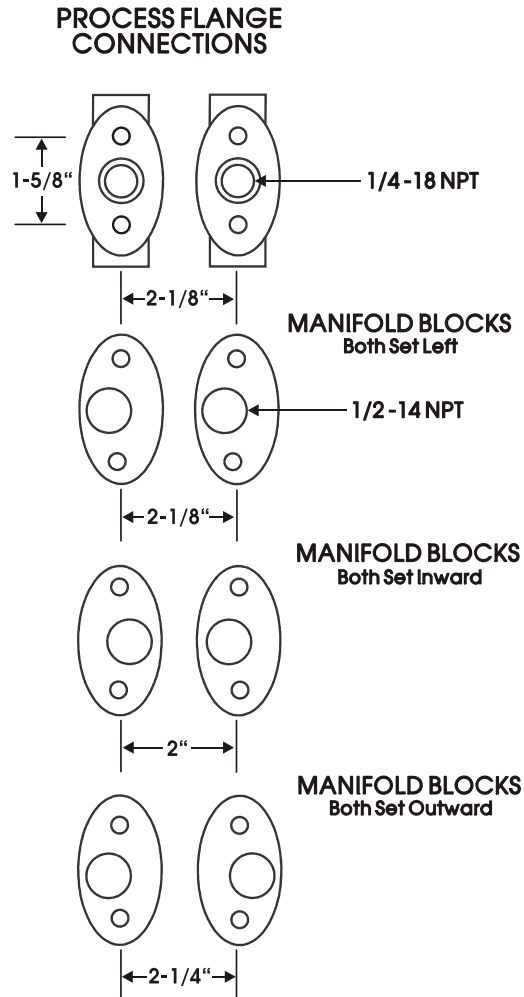
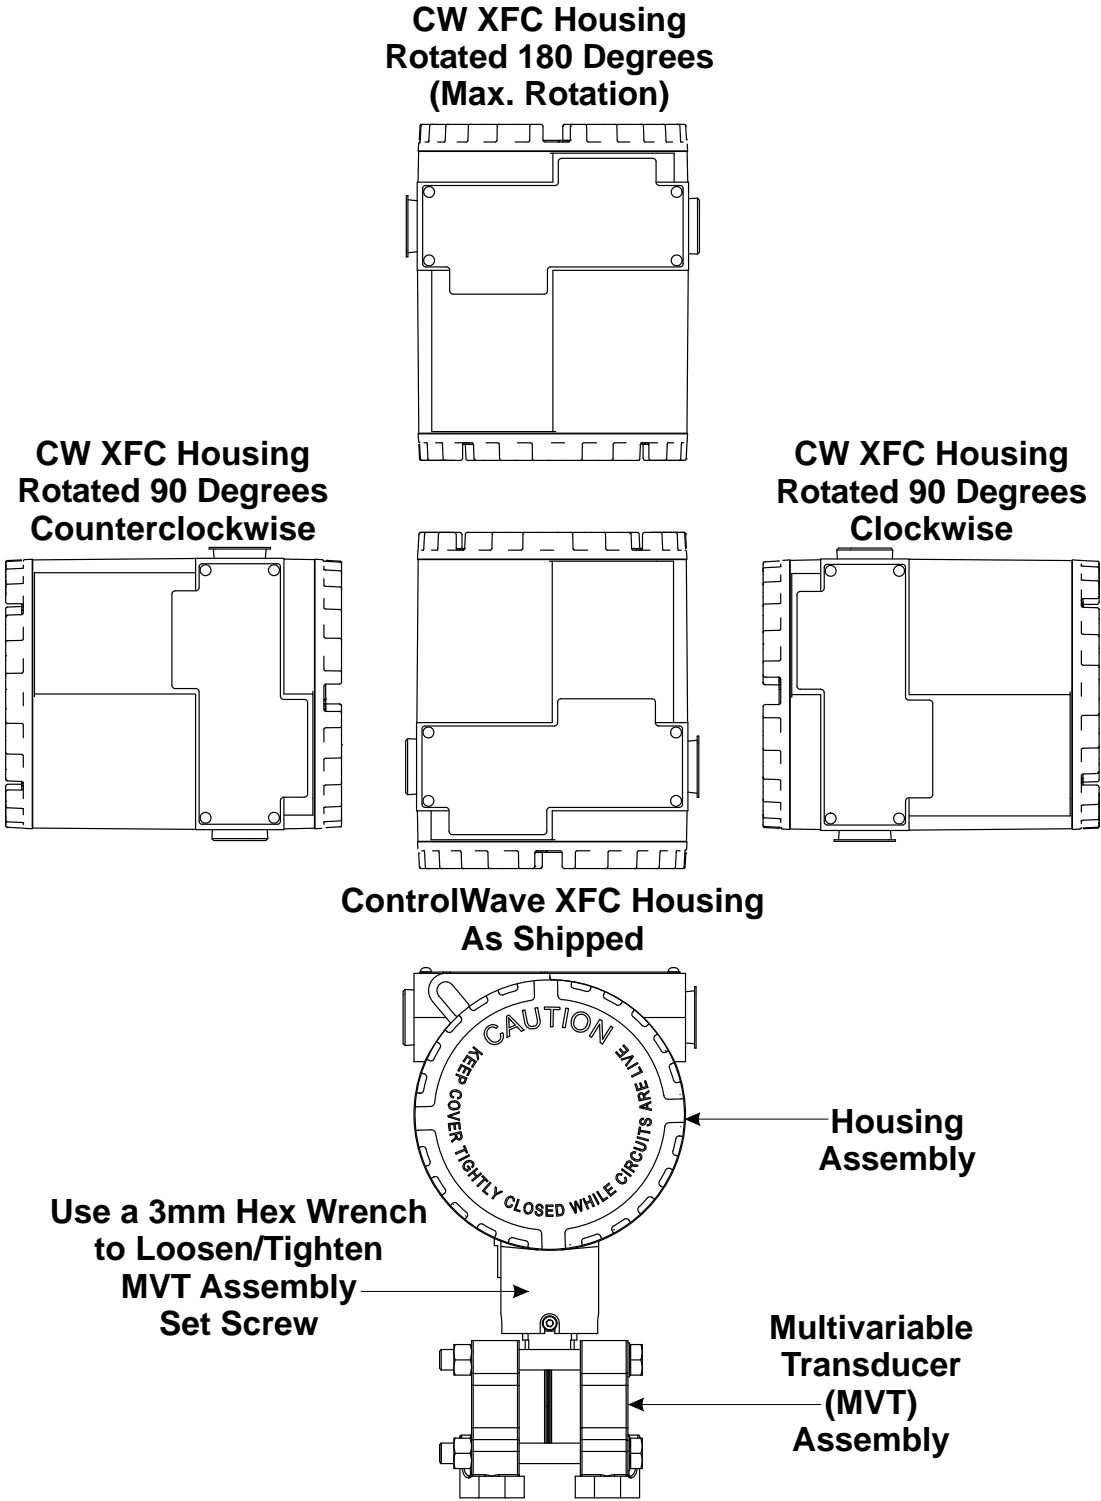
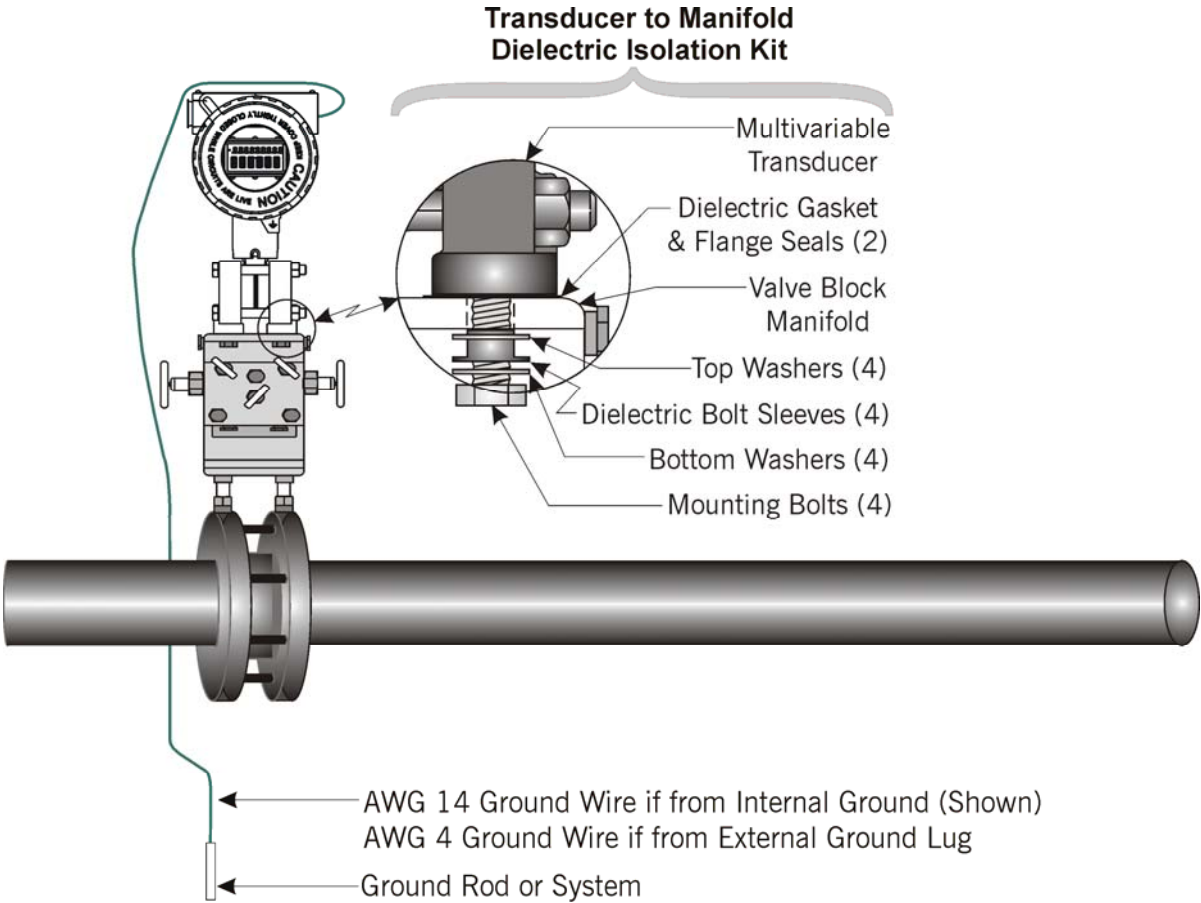
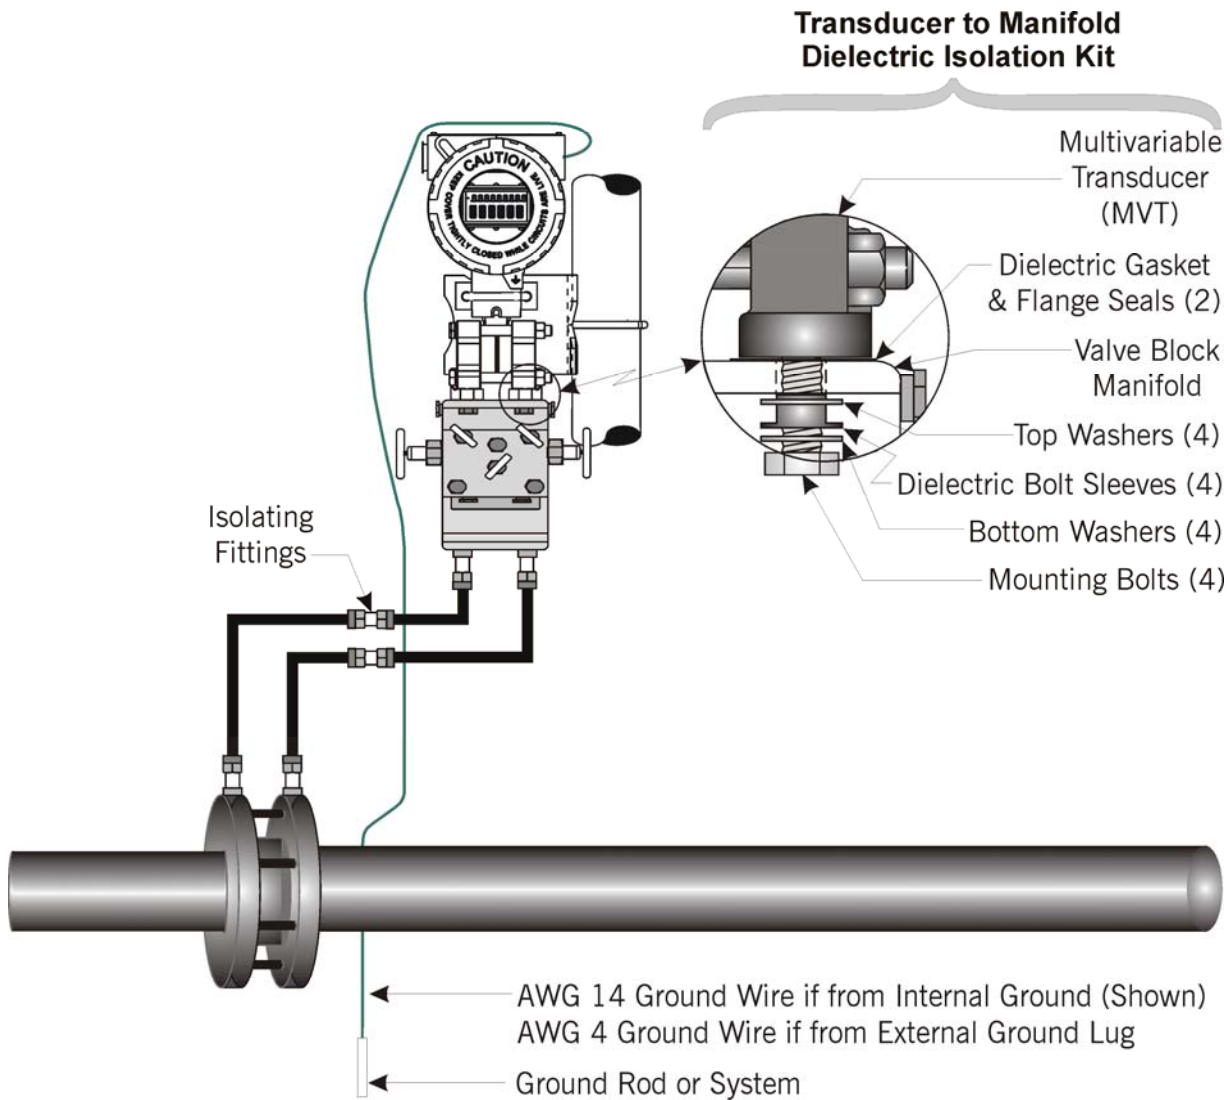

Figure 2-5. Process Flange and Optional Manifold Block Connectors
Figure 2-6. ControlWave XFC Housing Assembly Rotation Diagram
Figure 2-7. ControlWave XFC Direct Mount Installation with Cathodic Protection
Figure 2-8. ControlWave XFC Remote Installation (with Cathodic Protection)
Bolt the multivariable transmitter (MVT) to a process manifold that you connect to the main (meter run) directly or via two pipes (see Figure 2-5, Figure 2-6, Figure 2-7, and Figure 2-8).
Your ControlWave XFC may have an optional multivariable transducer (MVT) secured to the bottom of the unit. *Figure 2-5* details MVT process flange and optional manifold block connector mounting dimensions.
- **Standard Process Flange for MVT** – Two process flanges containing the connection ports are assembled to the differential transmitter. Port designations (L and H) are stamped on the body between the flanges. Ports accept $\frac{1}{4}$ -18 NPT pipe connections to 2-1/8 in. centers for connection to orifice taps or a standard three-valve manifold. These process flange connections are illustrated at the top of *Figure 2-5*.
Optional Process Manifold Blocks – Process manifold blocks may be installed on the transmitters to permit the use of connector assemblies having different connection centers. The manifold blocks, which are oval in appearance, mate with the transmitter's process flange. The blocks may be installed in several positions to achieve different connection centers as shown in *Figure 2-5*.
To rotate the case, remove the setscrew that locks the MVT to the XFC with a 3mm hex wrench. Once the case has been turned to the desired position, be sure to replace and tighten the set-screw (see *Figure 2-6*).
Note: Remote installation of a unit, without cathodic protection, is similar to that of *Figure 2-7* except that it does not require the transducer to manifold dielectric isolation kit.
Dielectric isolators are available and are always recommended as an *added measure* in isolating the ControlWave XFC from the pipeline even though the enclosure does provide some galvanic isolation from the pipeline and should not be affected by the cathodic protection or other EMF on the pipeline. ControlWave XFCs equipped with an MVT may be mounted directly on the pipeline or remotely on a vertical/horizontal stand-alone two-inch pipe or on a wall or panel (see *Figure 2-8*). ControlWave XFCs equipped with a GPT can only be mounted on a vertical/horizontal stand-alone two-inch pipe or on a wall or panel. It is recommended that isolation fitting always be used in remotely mounted meter systems. Install isolation fittings or gaskets between the following connections: